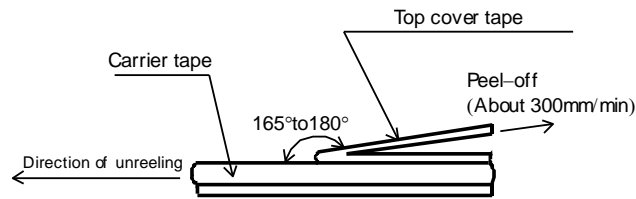
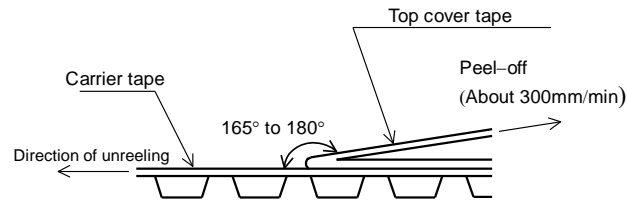

Figure-8
Figure-9
- 5). The peel strength of the top cover tape shall be within 0.1N to 0.5N on the test method as shown in the following RLP16, 20, 32, MLP20: Figure-8, RLP63, MLP63: Figure-9.